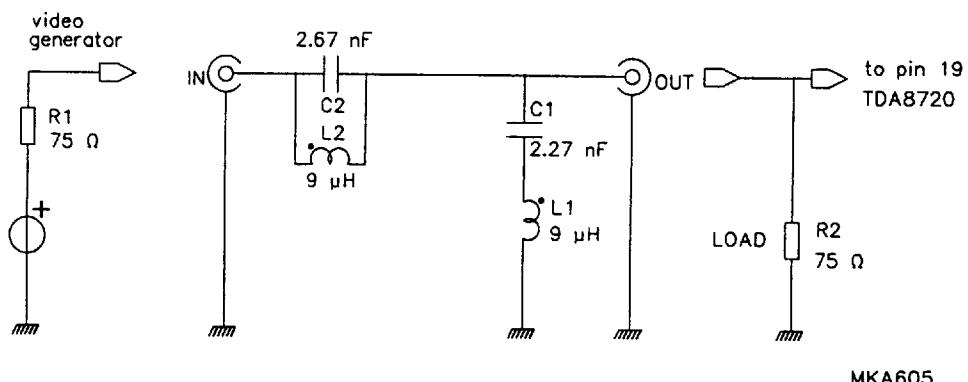

Fig.4 Schematic of video filter for chrominance-beat measurement.
4. Chrominance beat: measured with a video signal of 1 V(p-p) with a chrominance carrier of 400 mV(p-p) filtered around 1.07 MHz with the filter illustrated in Fig.4. Following this method the chrominance beat can be seen on a spectrum analyser.